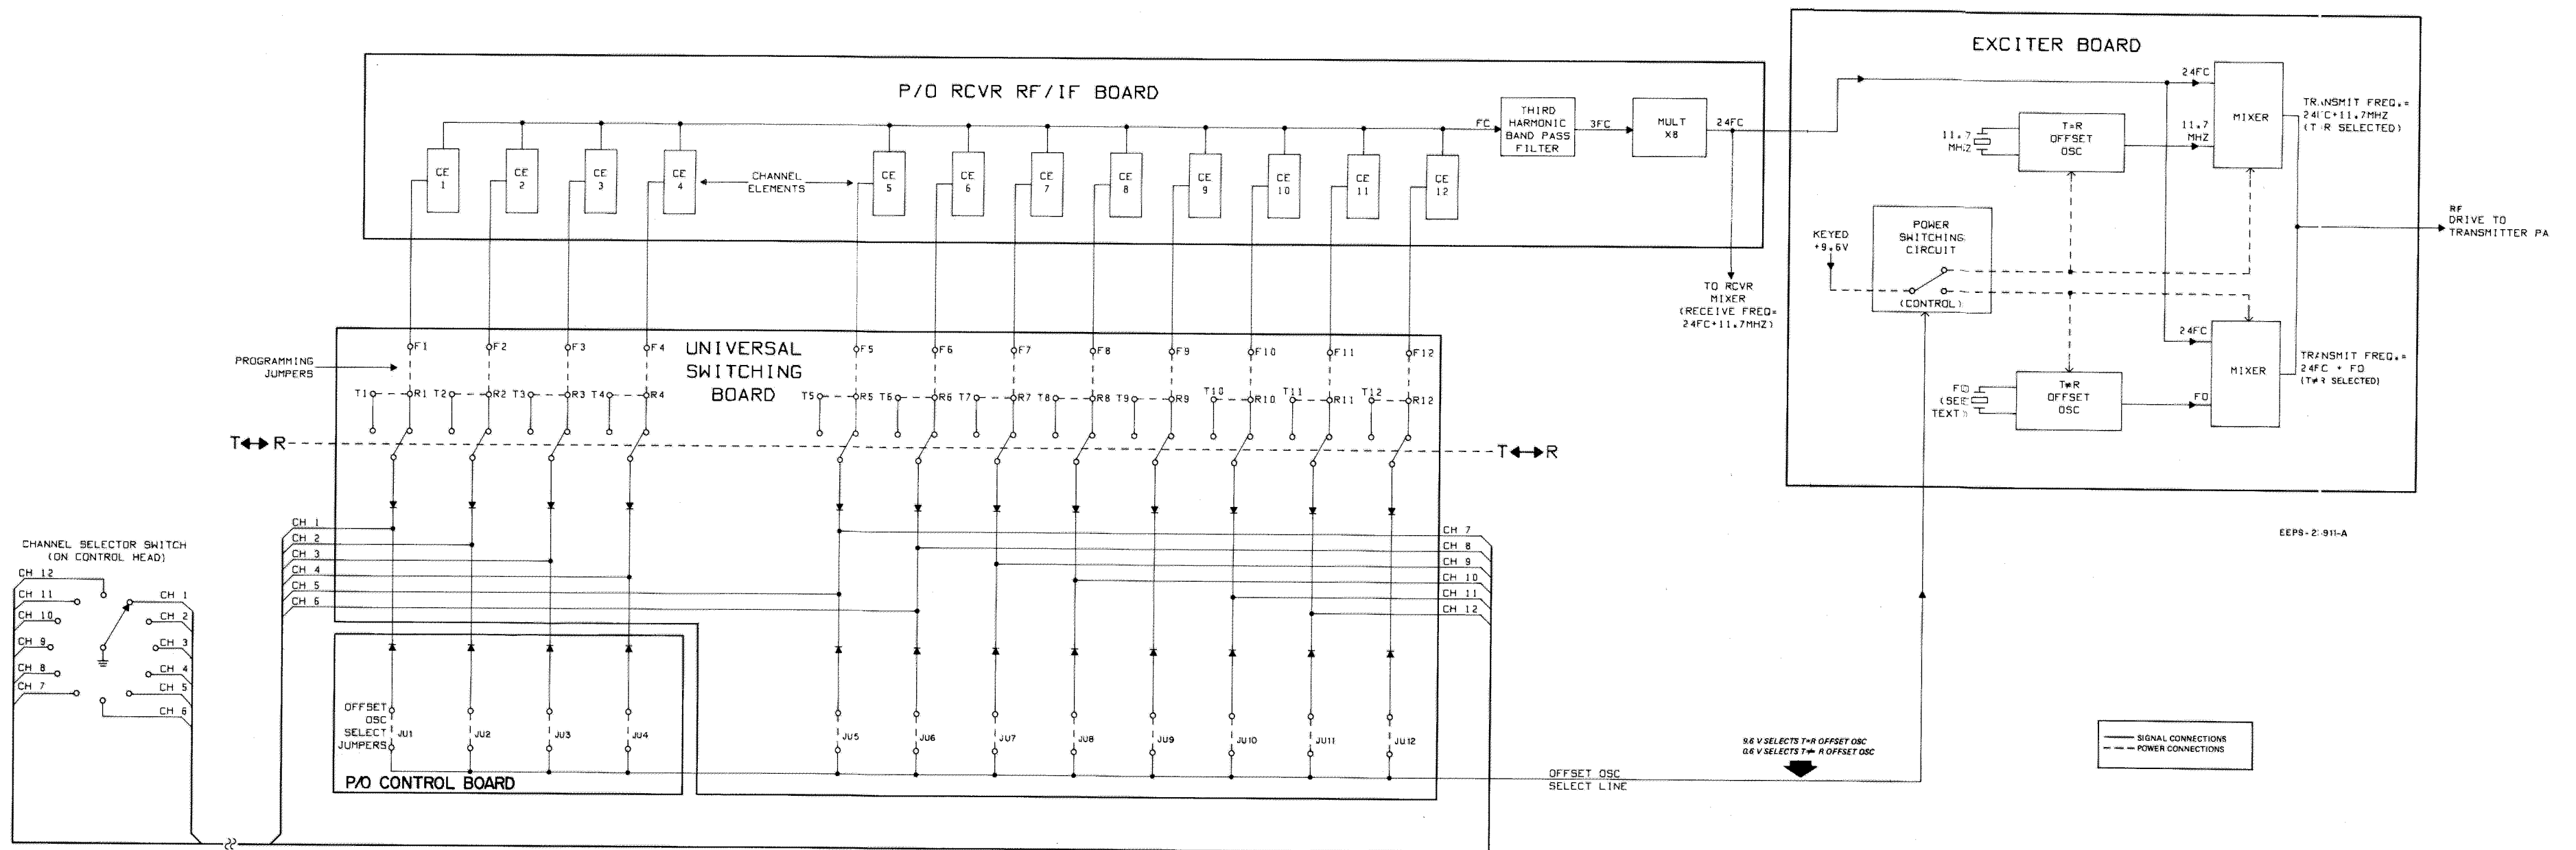

Figure 2.
7.1.3.2 Figure 2 is a functional diagram of the frequency selection circuitry in a twelve-channel radio equipped with a Universal Switching Board. The channel selector switch, RF/IF Board, and Exciter Board operate in the same manner as previously described. Twelve jumpers on Control Board (JU1-JU4) and the Universal Switching Board (JU5-JU12) are used to select either the $T = R$ offset oscillator (jumper out) or the $T \neq R$ offset oscillator (jumper in) for each channel as before. The only difference in operation is the manner in which channel elements are enabled.
7.1.3.3 The enable lines to the channel elements terminate in eyelets on the Universal Switching Board. These eyelets, used for connecting programming jumpers, are designated F1 through F12 for channels 1 through 12 respectively. A 24-transistor programmable switching matrix handles the selection of channel elements for receive and transmit. The transistor matrix may be represented as twelve spdt switches acting in unison (see Figure 2). The "normally closed" (receive) contact of each "switch" is connected to an eyelet on the circuit board. These eyelets, used for connecting programming jumpers are designated R1 through R12 for channels 1 through 12 respectively. Similarly, the "normally open" (transmit) contacts are connected to eyelets T1 through T12. The transistor matrix "switches" change state whenever the radio is changed from receive to transmit mode or vice versa.